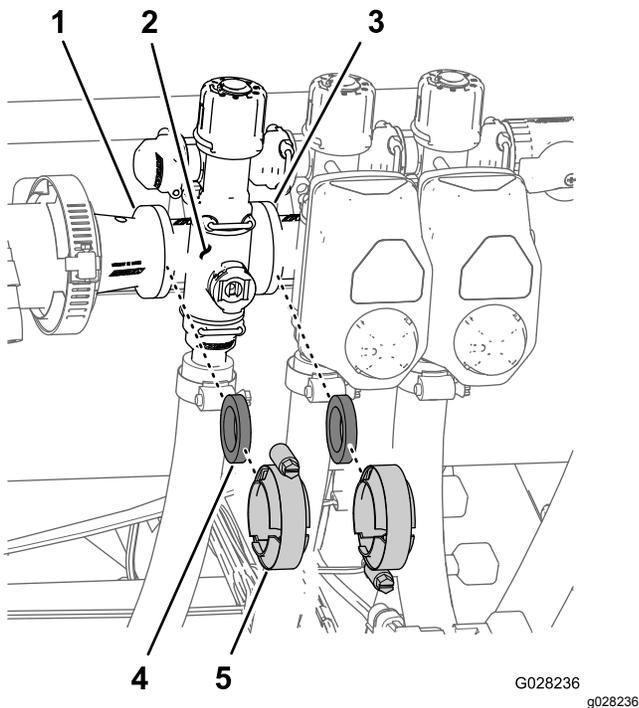

Figure 68
1. Remove clamps and gaskets that secure the manifold for the section valve (Figure 68) to the adjacent section valve (if left section valve, and the reducer coupling).